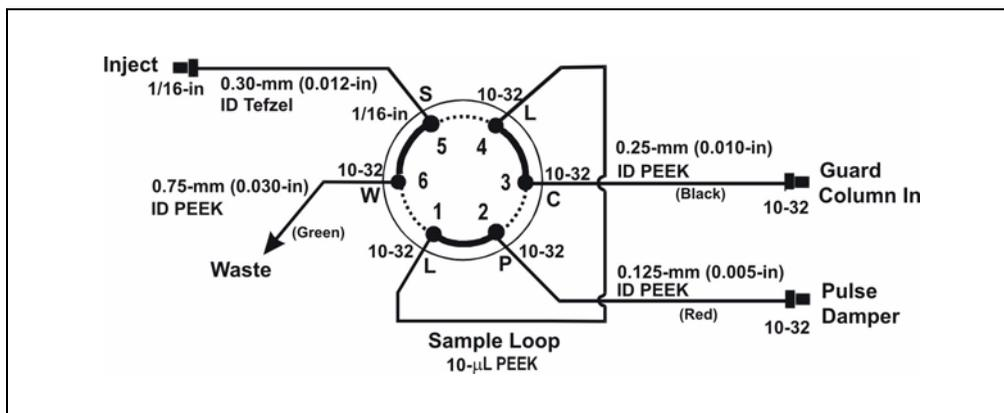

Figure 5-3. Injection Valve Plumbing
Figure 5-3 shows the injection valve connections. The injection valve is plumbed at the factory with all tubing and fittings for connection to the pump, injection port, and column. A 10 μ L PEEK sample loop (P/N 042949) is installed at the factory between ports L and L. Always replace the pre-installed 10 μ L loop with another of the same size.
3. Disconnect the sample loop from ports L and L on the injection valve (see Figure 5-3).